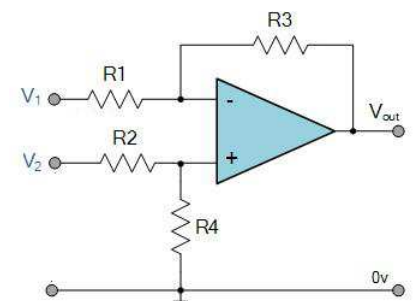

Figure 13
- 1- Construct the circuit shown in Figure 13 using  $R_1 = R_2 = R_3 = R_4 = 10\text{K}\Omega$ .